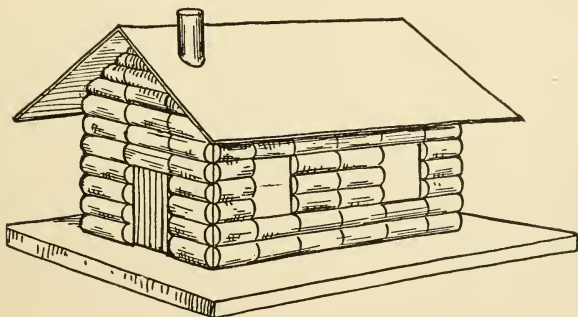

FIG. 406. — A Cork Log-cabin.
**A Toy Log-cabin,** or slab-hut, as it would properly be called, as the building is first put up and then covered with corks split in half for slabs, is illustrated in Fig. 406. A cardboard box should be procured out of which to make this little building, the proportion of which will determine the shape and size. Turn the box bottom side up, and on it construct a gable-roof. Cut two pieces of cardboard large enough to make a